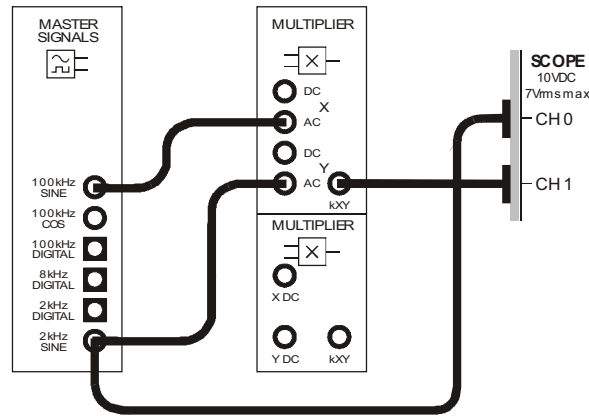

Figure 4
12. Connect the set-up shown in Figure 4 below.